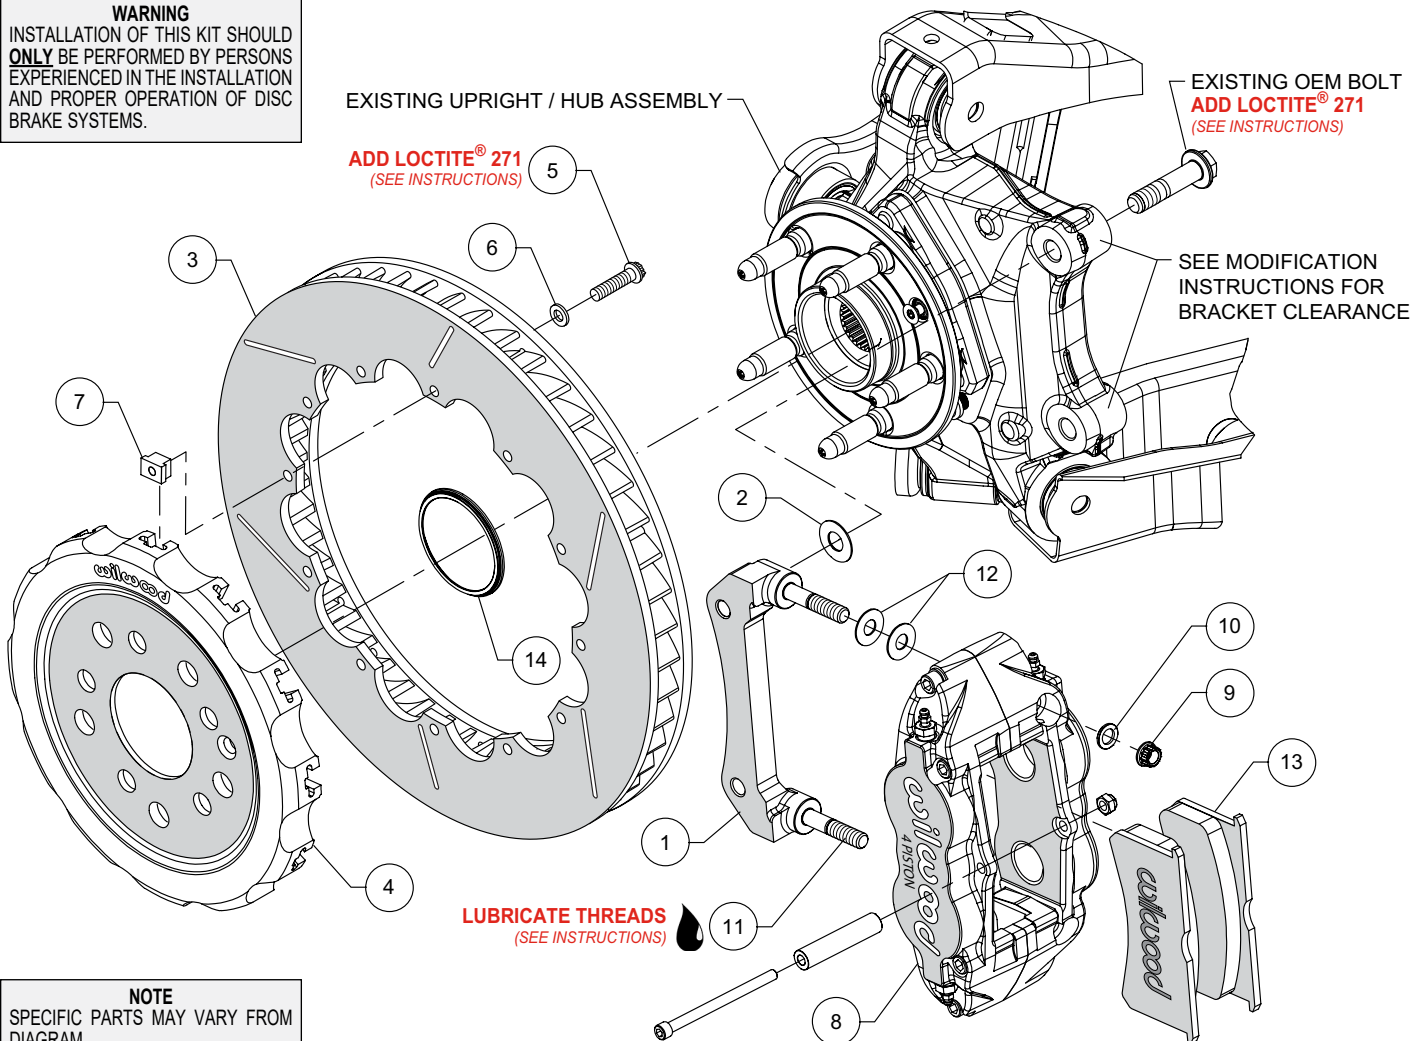
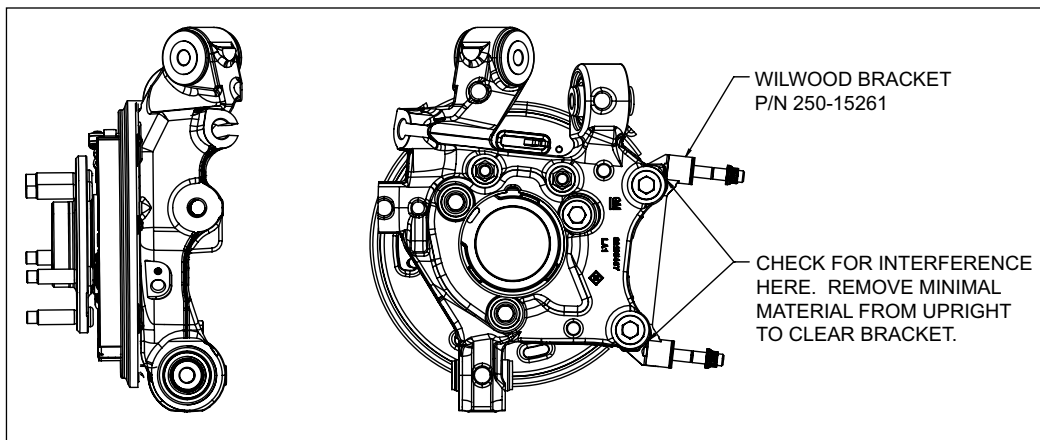
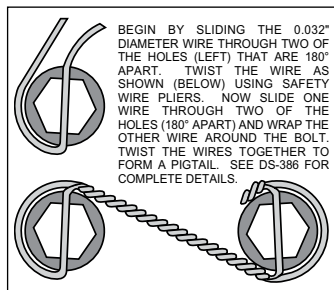

Figure 1. Typical Installation Configuration
Figure 3. Caliper Mounting Tabs Modifications
Figure 4. Safety Wire Diagram
•The OE caliper mounting tabs needs to be modified as shown in Figure 3 to clear the new Wilwood rotor and caliper mounting bracket (1). Temporarily mount the caliper mounting bracket as shown in Figures 1 and 3. Figure 3, Examine the fit of the bracket against the OE caliper mounting tabs and remove just enough material so that the bracket mounts flush.
NOTE: Numbers in parenthesis refer to the parts list and Figure 1 on the preceding pages.
•The caliper mount bracket (1) should initially be installed with clean, dry threads on the mounting bolts. Orient the bracket, as shown in Figure 1 and Photo 1, and install using saved OEM caliper mounting bolts. Initially place one .033" thick shim (2) on each bolt between the bracket and upright, Figure 1. Temporarily tighten the mounting bolts. **NOTE:** The bracket must fit squarely against the mount bosses on the upright. Inspect for interference from casting irregularities, machining ridges, burrs, etc. Later, after the caliper alignment has been checked, the mount bolts will be secured using red *Loctite*® 271.
•Orient the rotor (3) and the hat (4) as shown in Figure 1 and Photo 2. Attach rotor to hat using bolts (5), washers (6), and t-nuts (7), Figure 1. Follow additional instructions included with the bolt kit. Apply red *Loctite*® 271 to the bolt threads and torque to 120 **in-lb** using a criss-cross pattern. For an added measure of security, the bolts may be safety wired using standard 0.032 inch diameter stainless steel safety wire as shown in Figure 4. Refer to Wilwood's data sheet DS-386 (available at www.wilwood.com/Pdf/DataSheets/ds386.pdf) for complete safety wire installation instructions.
•Lubricate the caliper mounting studs (11) with lightweight oil. Initially place two .035" thick shims (12) on each stud as shown in Figure 1 and Photo 4. Mount the caliper (8) onto the bracket (1) using lock nuts (9) and washers (10), Figure 1. Temporarily